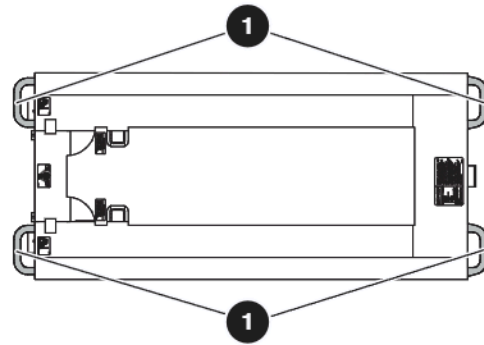
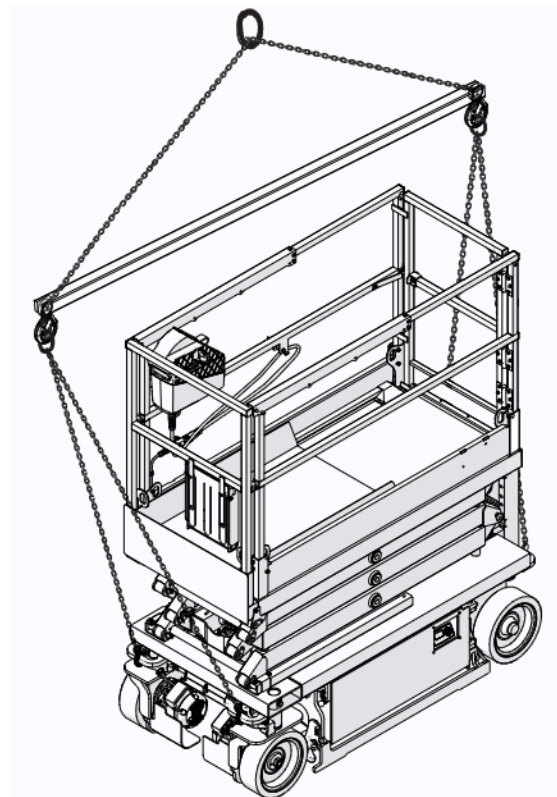

Figure 01 Lift and tie-down points
Figure 02 Appropriate method to hoist
- Attach the rigging to all **four lift points ①**, or lift with the forks in the designated **forklift pockets ②**. Refer to Figure 01, Figure 02, and Figure 03.
When you transport the MEWP it must be attached to a truck or trailer deck. Use the available tie-down points ① to attach the MEWP. Refer to Figure 01. If you do not obey, there is a risk of death or serious injury.
- Tie down the MEWP to the transport vehicle using the four tie-down points ①. Refer to Figure 01.